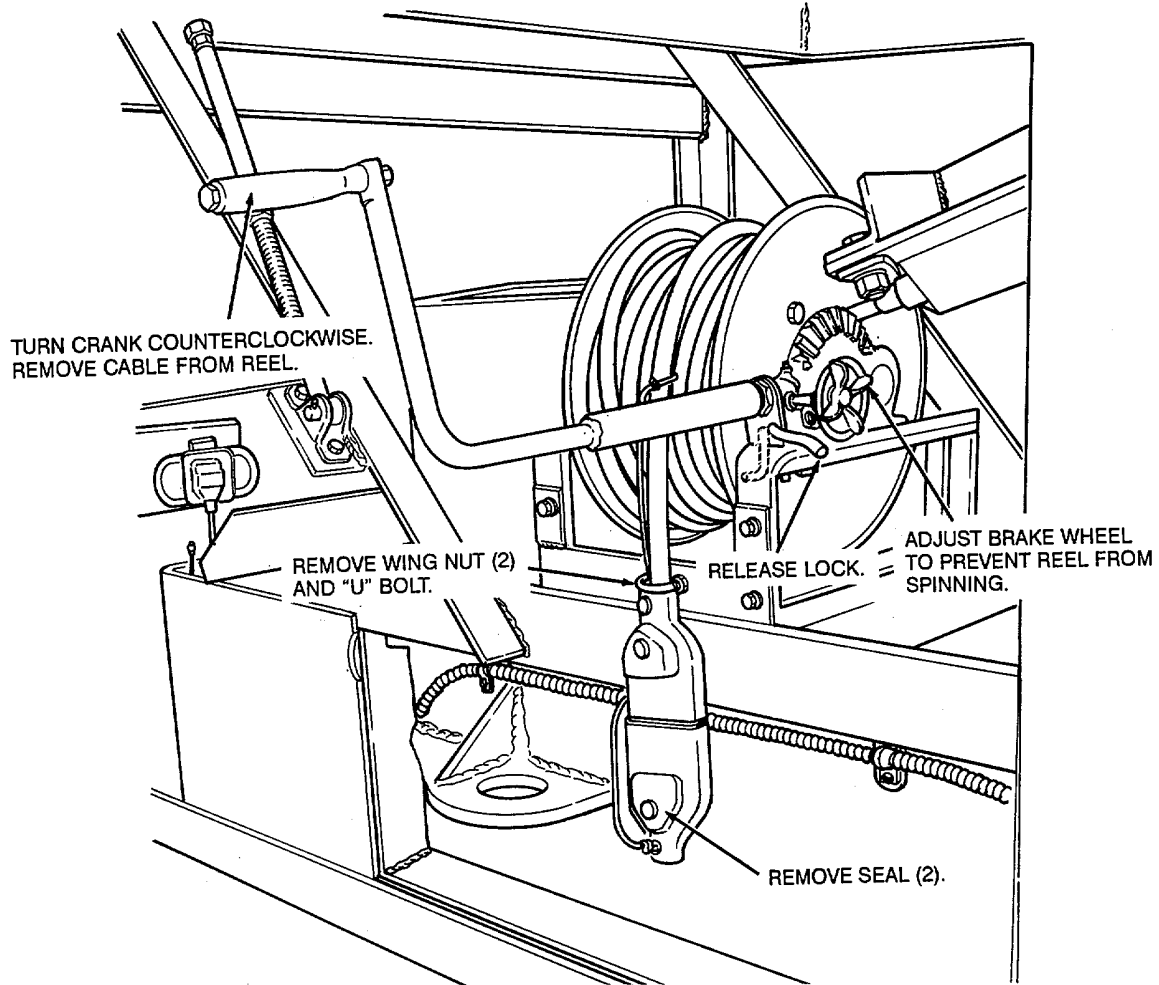

Figure 10. Feeder jumper cable installed on reel.
- d.* Install the feeder jumper cable on the reel in reverse of the instructions on figure 10.